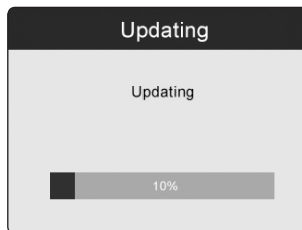

Fig.26
- 5.7.4. Press **Power** button to turn on the tool and then press **UP** button until the update screen appears, select **YES** to upgrade the tool (**Fig.26**).